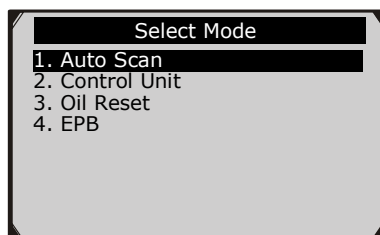
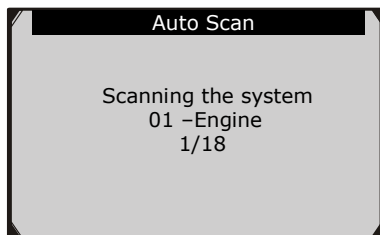
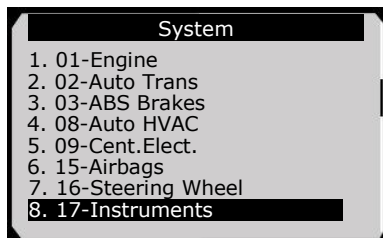

Figure 6.1
Figure 6.2
Figure 6.3
6. From **Select Mode** screen (Figure 6.1), use **UP/DOWN** scroll button to select **Auto Scan**, and press **OK** button. Wait for a few minutes until the following screen shows as Figure 6.2. The screen continually changes according to the detecting system. Finally, it will display all detectable systems available in the vehicle as Figure 6.3.
**NOTE:** The screen will display an estimated number of the detectable systems of the vehicle (eg.18 in the 1/18 of Figure 6.2) according to ECU response at first, but the number of the systems displaying in the **System** screen may be less than the primary estimated number due to various vehicle configuration or vehicle modification.